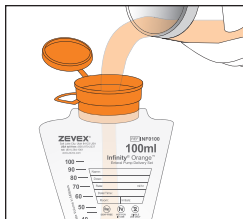

Figure 2-2 Fill Bag
- ▶ **If you are using the 100ml, 500ml, or 1200ml disposable set:** Hold bag upright and pour in feeding solution (Figure 2-2). Close cap securely.